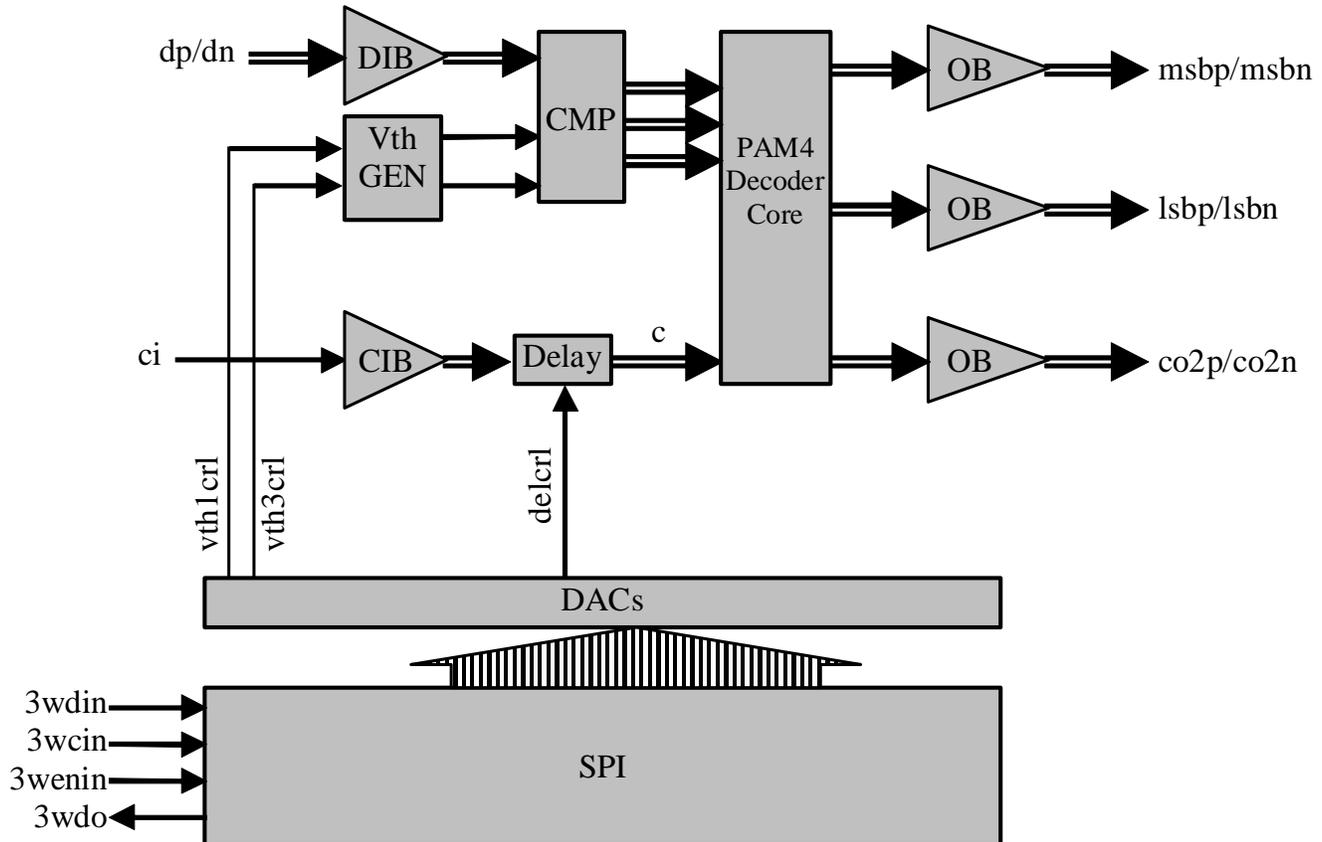

Fig. 1. Functional Block Diagram
The ASNT6104-KMM SiGe IC shown in Fig. 1 is a PAM4 decoder. The differential PAM4 input data signal dp/dn is processed by the linear input buffer (DIB), and is sent to the Comparator block (CMP). Three limiting buffers inside CMP process the 3-level PAM4 signal. One of the buffers processes the input signal differentially. The other two buffers compare single-ended data to their own threshold levels that are produced by the Voltage Threshold Generator block (Vth GEN). The three resulting differential binary data streams are sent to the PAM4 Decoder Core where they are retimed by D-type flip flops (DFFs) with a full-rate external clock, and delayed by the adjustable delay line block (Delay). The three differential signals are decoded into two differential data streams. The two signals are retimed again, and are sent to the output through Output Buffers (OB).